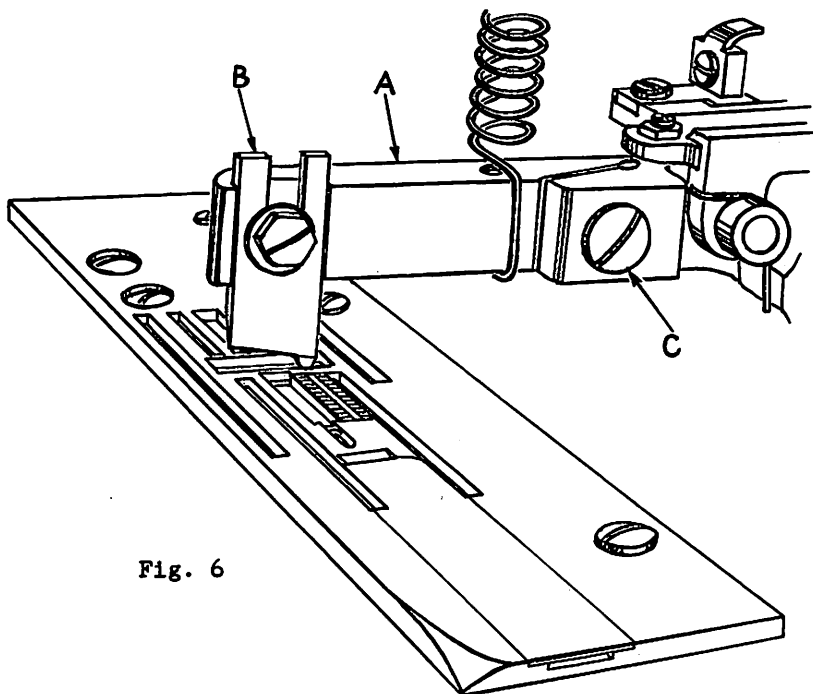
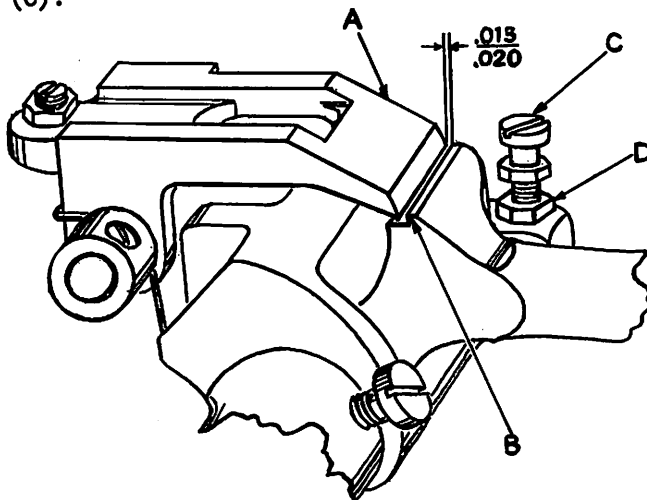

Fig. 6
Fig. 9
The upper tape cutter knife (B, Fig. 6) must be set after the tape cutter knife bar (A) has been correctly located. The knife should then be positioned so that the highest point of its cutting edge passes the cutting edge of the lower knife by $\frac{1}{32}$ inch when the knife bar is in its lowest position.
The two cutting edges must exert a pressure against one another. The amount of pressure should be such that it can be felt in the upper tape cutter knife bar when the knife bar is pressed down with the finger. The pressure is obtained by adjusting the screw (C, Fig. 6) in the upper tape cutter knife bar. Turning screw to the right adds pressure against lower knife, turning screw to the left acts the reverse.
After the upper tape cutter knife (B, Fig. 6) has been temporarily assembled in the upper tape cutter bar (A), set the bar height by manipulating adjusting screw (C, Fig. 9) so that .015 to .020 inch distance remains between the point of driving pawl (A, Fig. 9) and the point of ratchet lever (B)